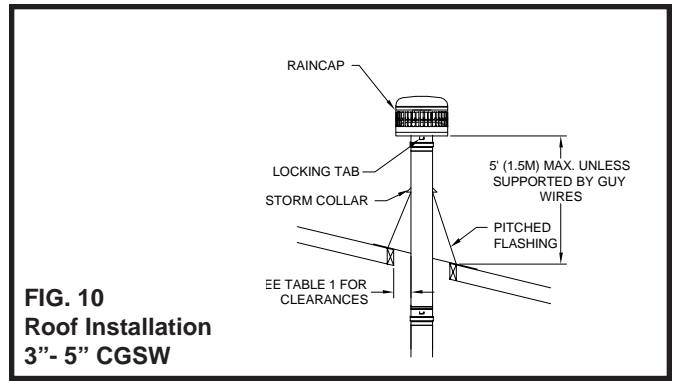

FIG. 10
6. Above the roof, a flashing and storm collar are required. Use high temperature sealant to seal the storm collar to the vent so that rain will not penetrate the roof opening (See **FIG. 10, 11 & 12**).